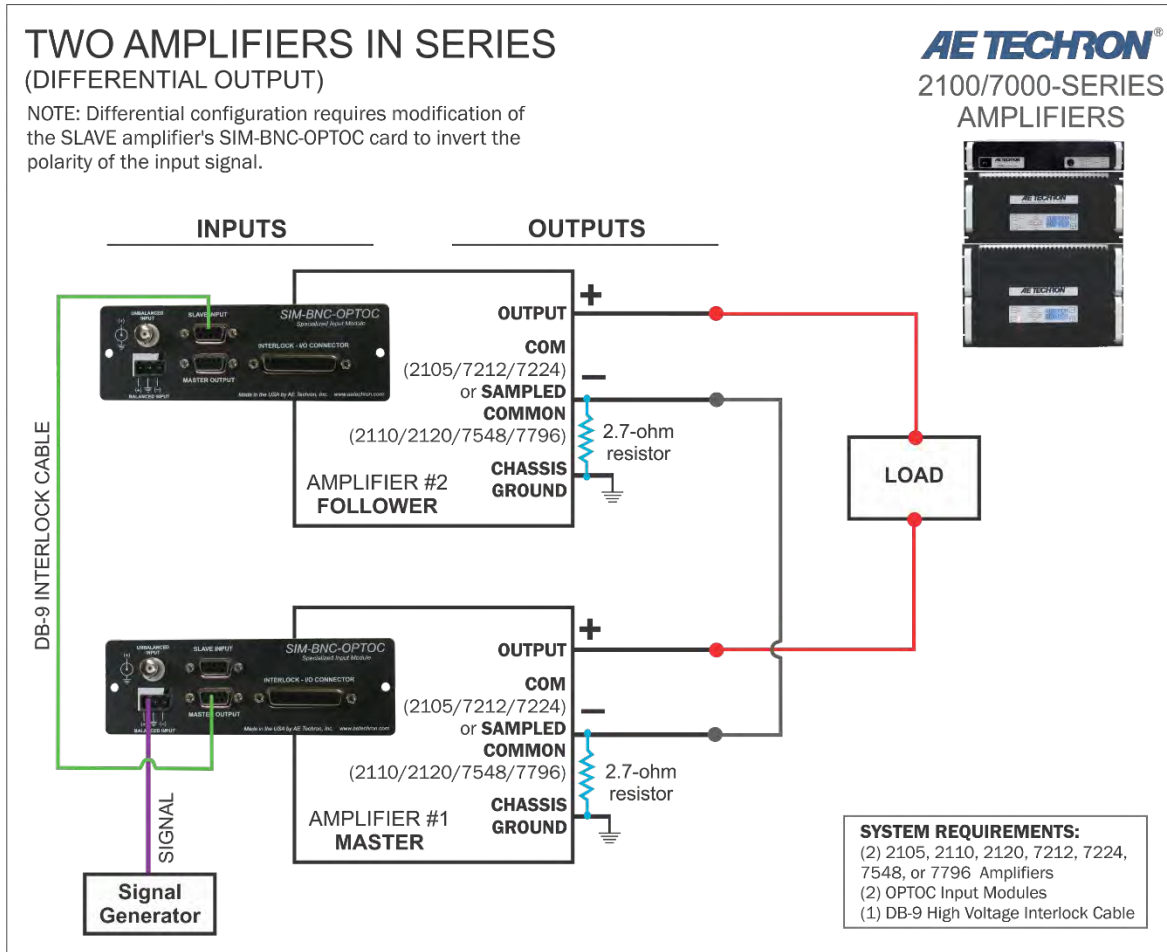

Figure 3.13 – Two Amplifiers in Series – Differential Configuration
5. Check the completed system diagram in **Figure 3.13** to verify proper system setup.